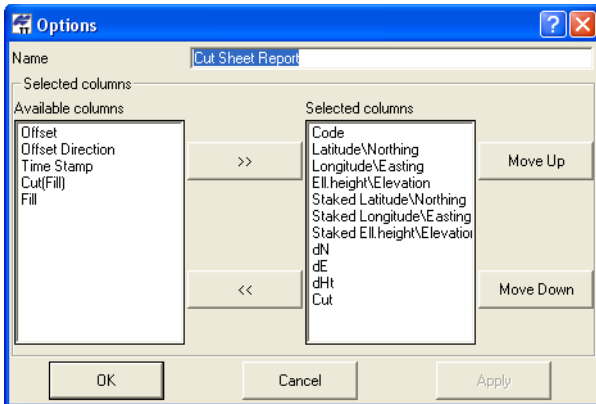

Figure 7-28. Item Options – Staked Points Report
- Cut Sheet Report – edit the name select parameters to include or exclude using the move right/move left buttons, order the display of parameters using the Move Up/Move Down buttons, and click **OK** (Figure 7-28).
- Misnamed Autotopo Rovers Report – edit the name and click **OK** (Figure 7-28).